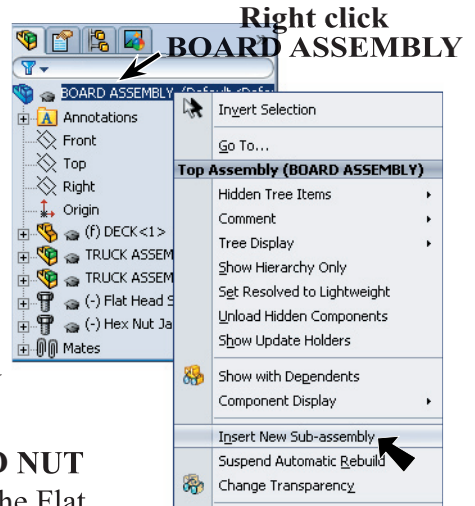

Fig. 10
Step 1. **Right click BOARD ASSEMBLY** at the top of Feature Manager and click **Insert New Sub-assembly** from menu, **Fig. 10**.